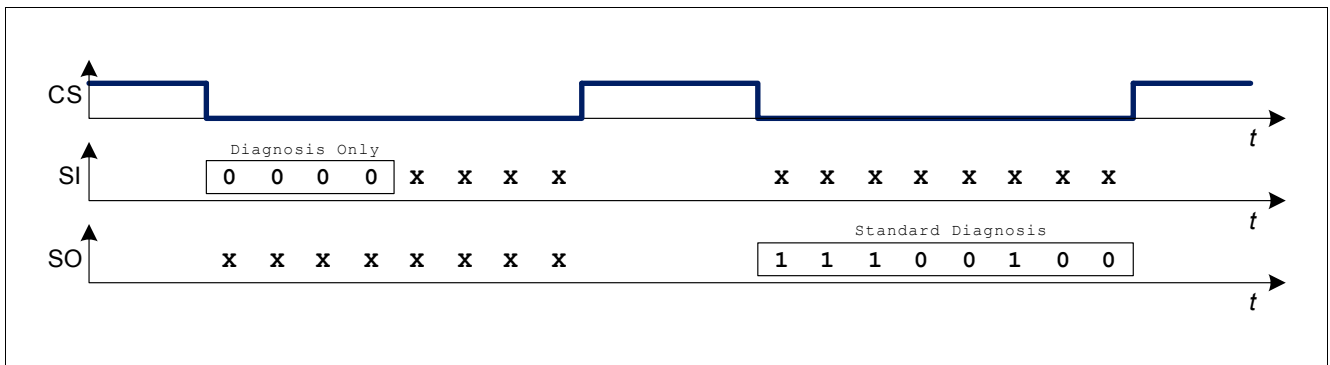

Figure 14 Diagnosis Only
The contents of the diagnosis register will be returned during the next SPI access. This command is only active once unless the next control command is again "Diagnosis only" (see Figure 14).
In the example shown in Figure 14, the standard diagnosis reports short circuit to ground for channel 1 (00), open load for channel 2 (01), over load / over temperature for channel 3 (10) and normal operation for channel 4 (11).